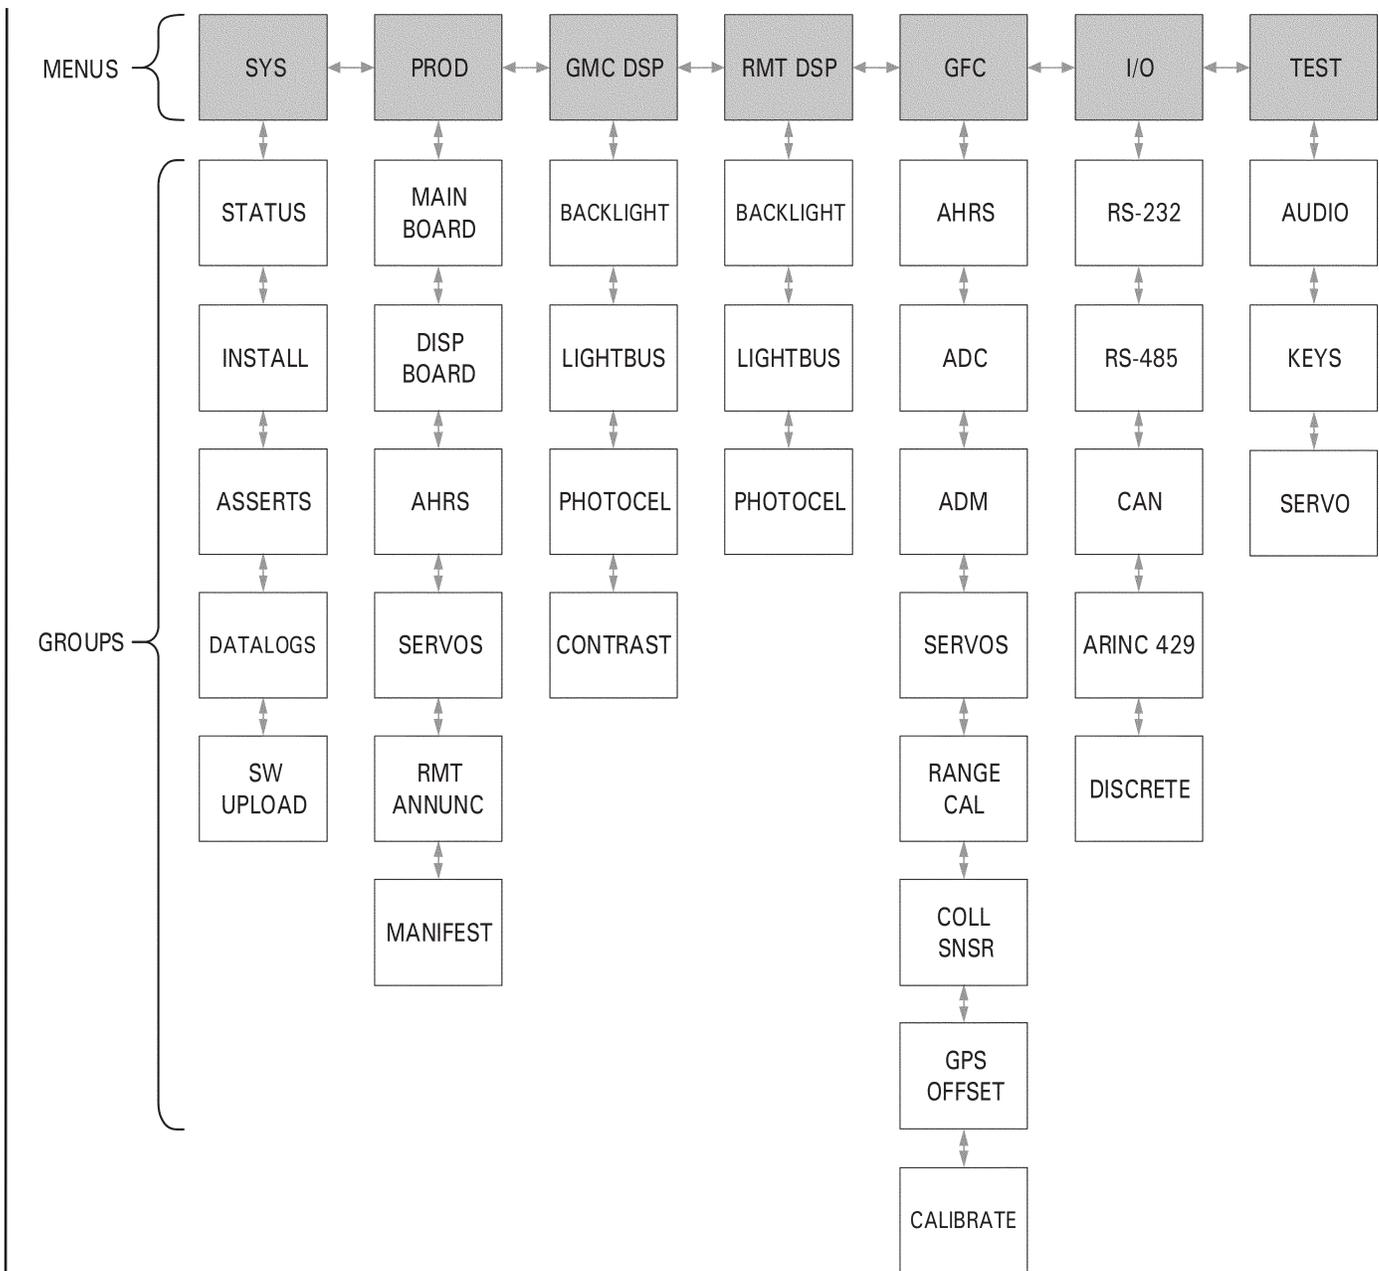

FIGURE 22-7 GARMIN FCS – CONFIGURATION MODE MAP
2. Refer to Figure 22-7. Navigate to GFC menu, SERVOS page.
2. Refer to Figure 22-7. Navigate to SYS menu, INSTALL group, and set/verify each value below:
3. Refer to Figure 22-7. Navigate to GMC DSP menu and set/verify the values for each group below:
4. Refer to Figure 22-7. Navigate to GFC menu, GPS OFFSET group, and set/verify each value below:
5. Refer to Figure 22-7. Navigate to TEST menu, AUDIO group, and set/verify each value below:
6. Refer to Figure 22-7. Navigate to SYS menu, then SW UPLOAD page.
11. Refer to Figure 22-7. Navigate to PROD menu and verify software version on each page matches those listed in the appropriate helicopter delivery range at: <https://robinsonheli.com> > Customer Support > Avionics Support > Avionics Software and Approximate Helicopter Delivery Dates.
3. Refer to Figure 22-7. Navigate to SYS menu then ASSERTS page or DATALOGS page, as required.